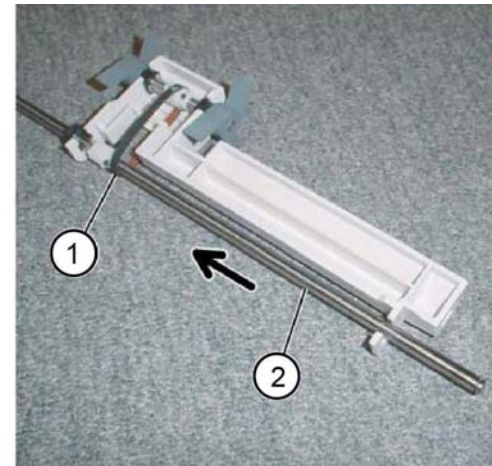

Figure 7 Shaft assembly removal
9. Remove the shaft assembly, Figure 7:
- Remove the paddle belt (1) from the pulley.
- Remove the shaft assembly (2) in the direction of the arrow.